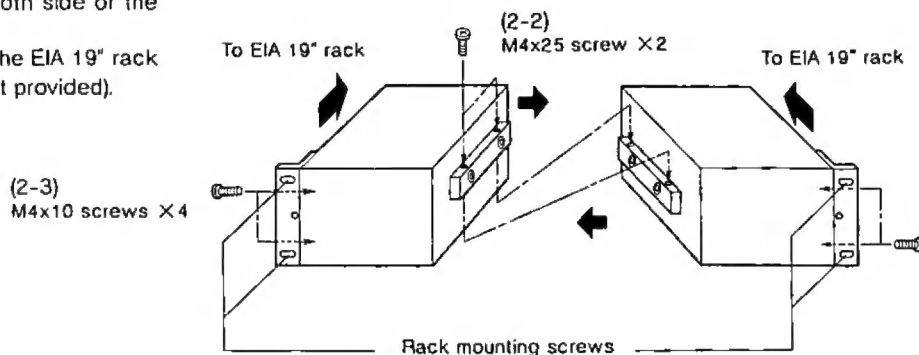

Fig. 3
- 2-2. Attach two Remote Control Units by using four screws (M4 × 25, provided), as shown in Fig.3.
- 2-3. Fix two Rack Mounting Angles(1) on both side of the jointed Remote Control Units.